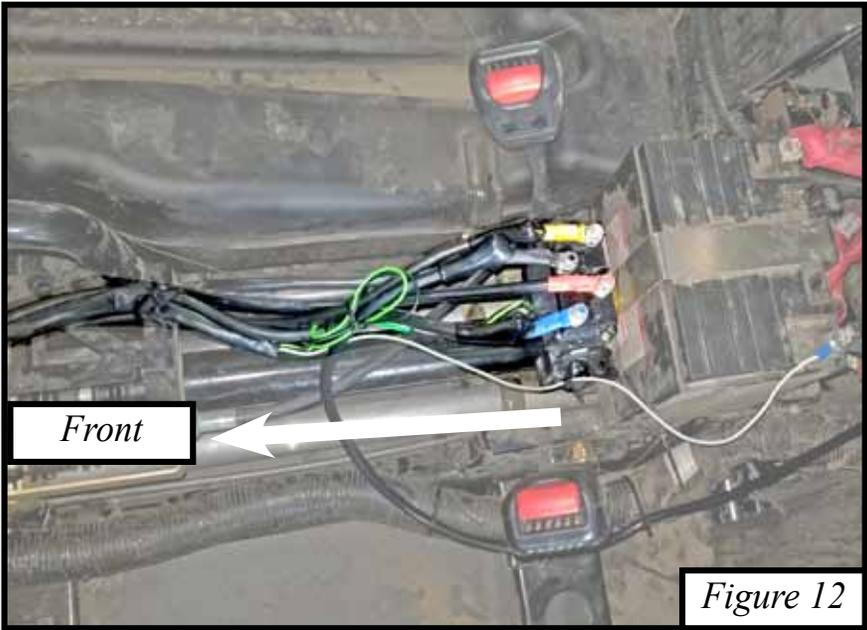

Figure 12
- You will run the longer winch wires up through the center console to the front of the machine shown in Figure 12.